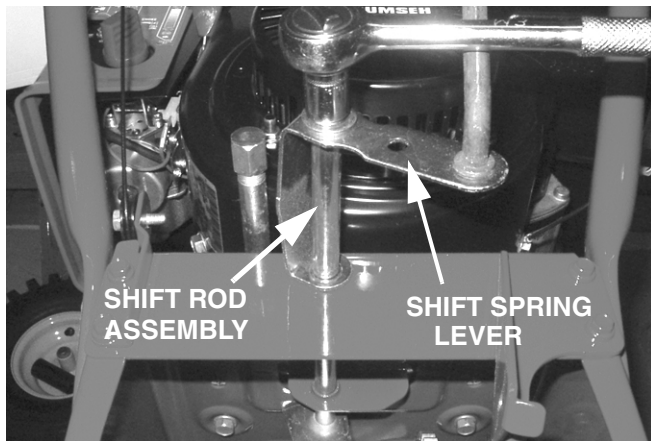

FIGURE 10
17. Remove the hex lock nut and special spacer from the end of the shift rod assembly as shown in Figure 10.
39. Re-install the shift spring lever, special spacer, and hex lock nut on the end of the shift rod assembly as shown in Figure 10. Ensure that the square end of the shift rod assembly is set squarely in the square hole on the shift spring lever and that the special spacer is positioned as found in Step 18. Tighten securely.